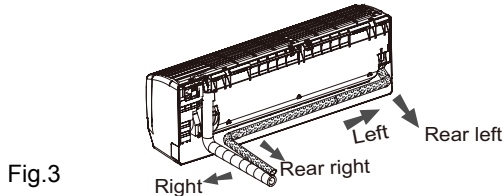

Fig.3
- (1) The pipe can be led out in the direction of right, rear right, left or rear left. (As show in Fig.3)